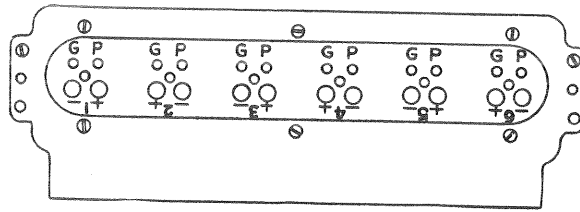

Figure 1
13. Test plate circuits (indicated as P Fig. 1) now using the high scale of the meter.
- (b) Insert the positive meter test lead in all contacts marked "P" in Fig. 1. The readings will indicate as follows: